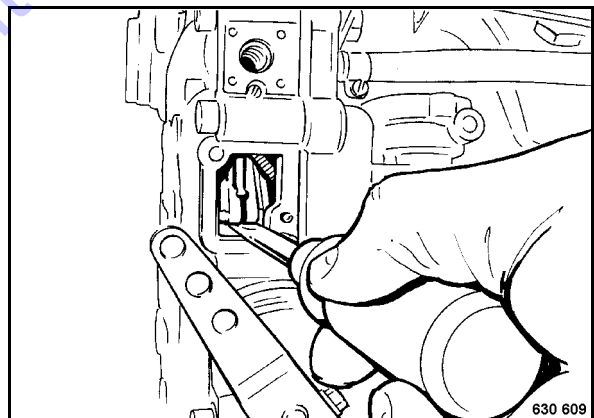

Fig. 83
- Unhook the pump piston (Fig. 83) from the rocker arm to the injection pump.